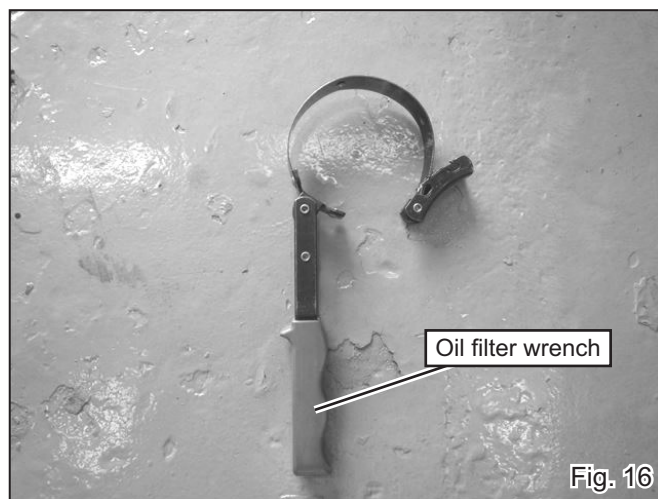

Fig. 16
**REFERENCE** When replacing oil filter, use oil filter wrench like the sample shown on Fig. 16 on next page.